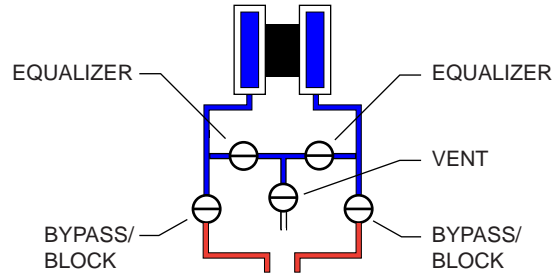

Figure 2.17—Valve positions for static pressure calibration
1. Close the bypass valves to isolate the pressure below the manifold (Figure 2.17, page 52).